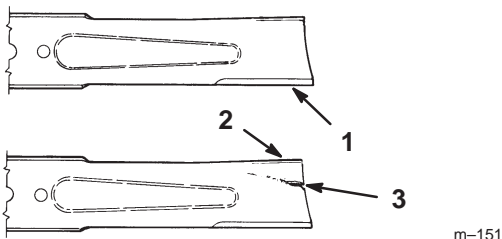

Figure 33
1. Inspect the cutting edges (Fig. 33). If the edges are not sharp or have nicks, remove and sharpen the blades; refer to Sharpening the Blades, page 30.
2. Inspect the blades, especially the curved area (Fig. 33). If you notice any damage, wear, or a slot forming in this area (item 3 in Fig. 33), immediately install a new blade.